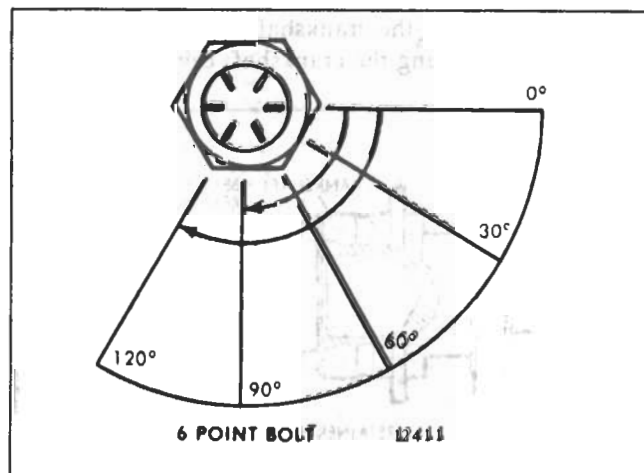

Fig. 3 - Torque-Turn Limits
9. Turn the bolts an additional 90°-120° (Fig. 3) to obtain the required clamping.